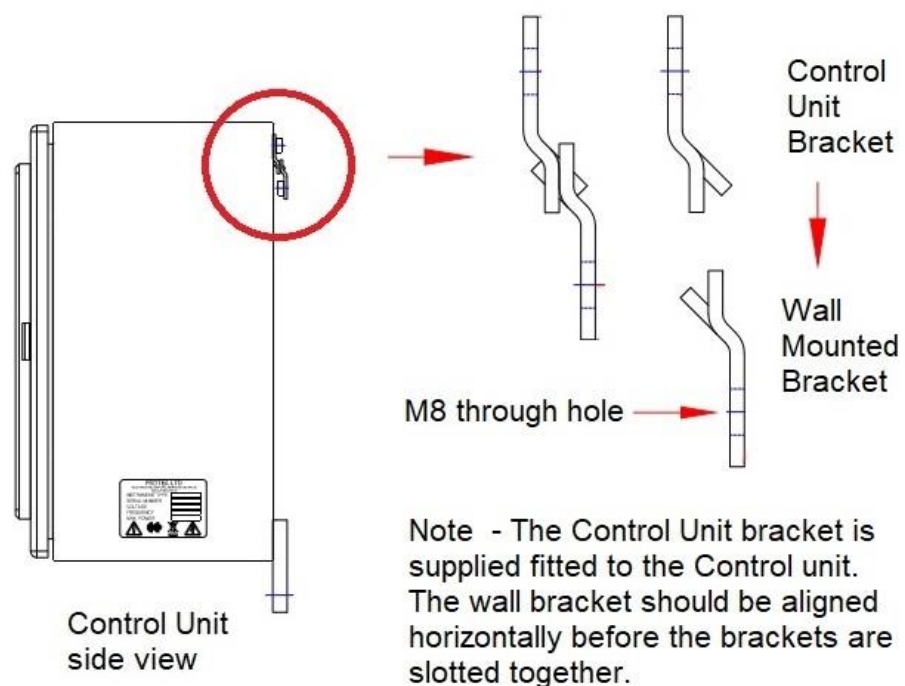

Figure 3-1 Mounting of Control Unit (bracket mounting)
1. You should first install the Control Unit using the mounting bracket provided. The wall mounting system is comprised of two brackets – one pre-fitted to the Control Unit and another bracket secured to the wall (as shown in figure 3-1 below)